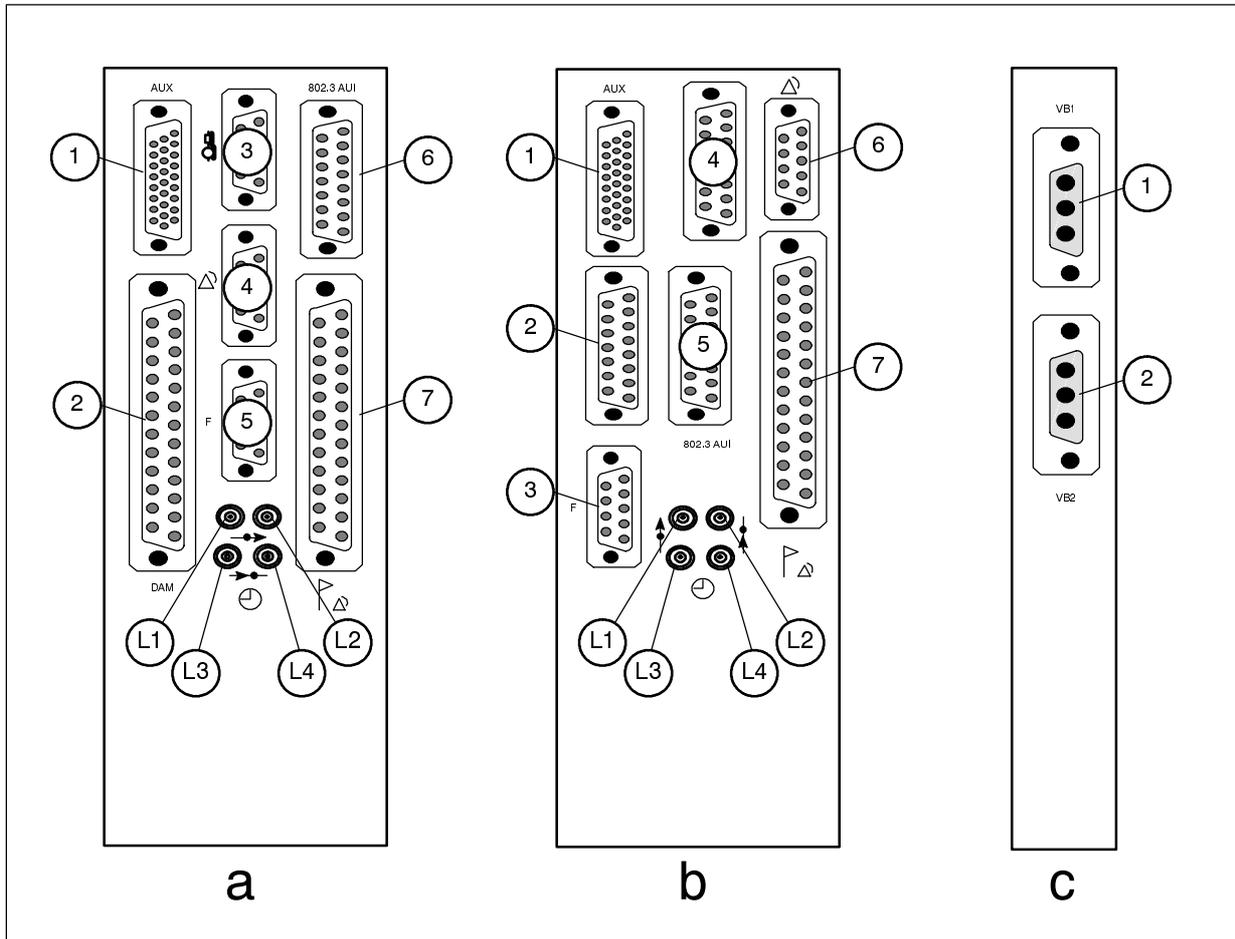

Fig. 2.3-2 Common signals connection panels.
- ◆ Fig. 2.3-2 the different kinds of common signals and power supply connection panels